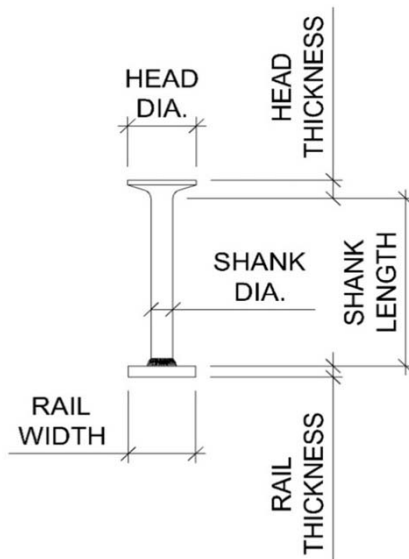

Figure 2 - Dimensional Details
- See Figure 2 for stud profile.